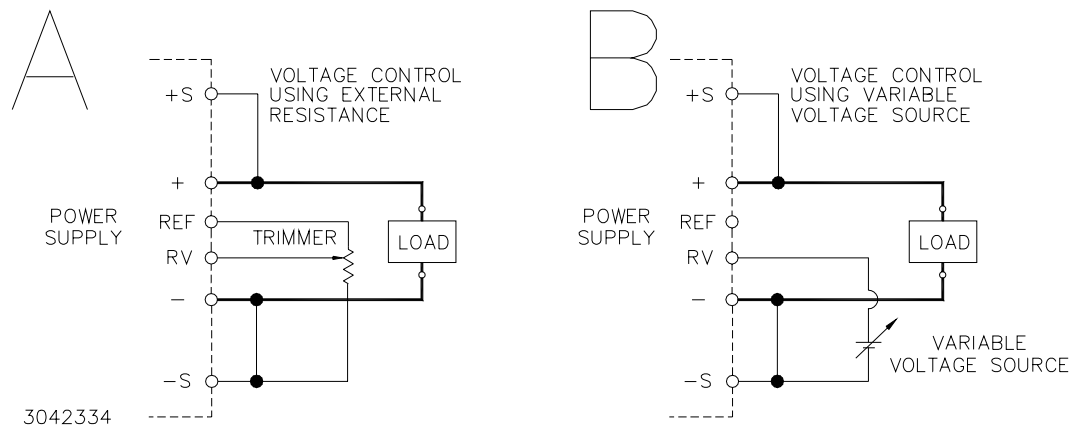

FIGURE 5. CONNECTIONS FOR REMOTE VOLTAGE CONTROL
RESISTANCE. Use a shielded wire, 2m maximum in length, for connection to the trimmer control. Connect the external trimmer as shown in Figure 5 (A). Suggested value for the trimmer control is 5K ohms). With the external trimmer control at its maximum clockwise position, set the output voltage to the desired maximum value by adjusting Vadj clockwise. The value should not be more than 120% of E_o nominal (not more than 110% for the 48-volt model, not more than 3.6V for the 3.3-volt model).
VOLTAGE. By adjusting an external 0-6V voltage source (0-5.5V for the 48-volt model) from minimum to maximum, the maximum output voltage can be adjusted from 0 to 110% (the 3.3-volt model can be adjusted to 3.6V). Remove the shorting link between the REF and RV terminals. Connect the voltage source across the RV and (-)S terminals as shown in Figure 5 (B).